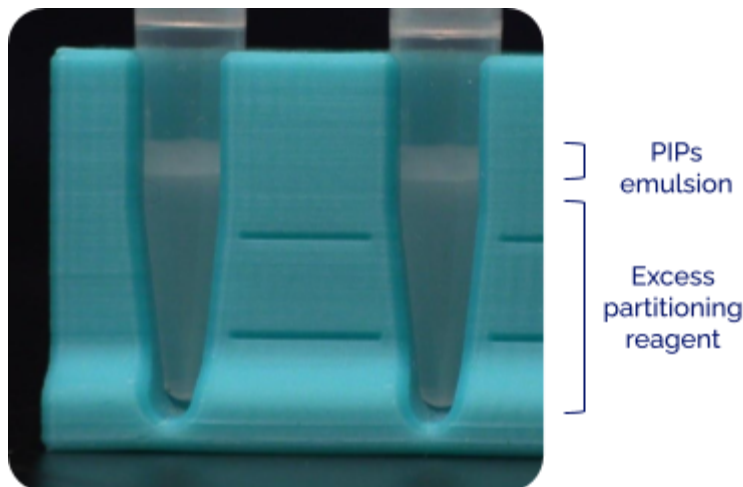

Figure 4. PIPs following emulsification.
10. Let the emulsion stabilize for 30 seconds and then remove the emulsion from the adaptor for visual confirmation of the emulsion quality. The emulsion should be a homogenous white color (Figure 4).